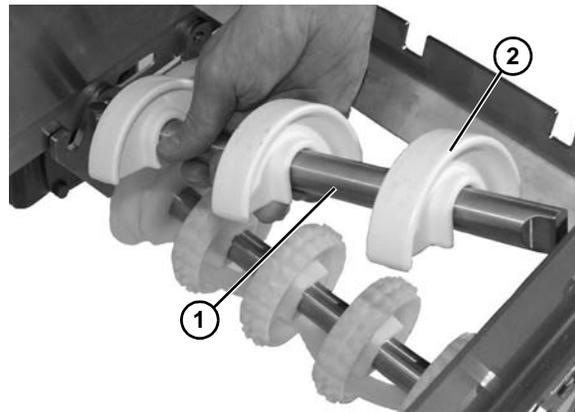

Figure 38
4. Remove belt return (**Figure 38, item 1**).
5. Remove and replace belt return shoes if worn (**Figure 38, item 2**).